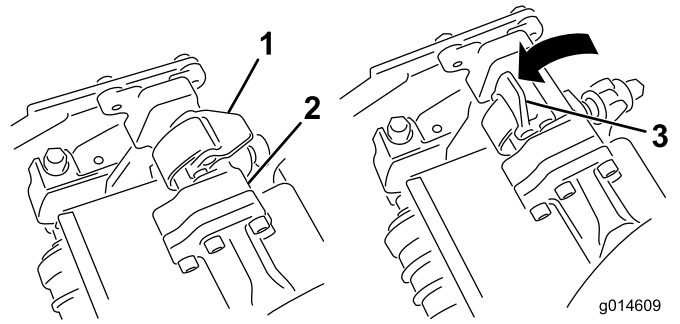

Figure 12
6. Close the latches down and around the cutting-unit bar and lock them in place (Figure 12).
5. With the latches on the suspension-arm bar pointing up (i.e., open) (Figure 12), push the suspension arm